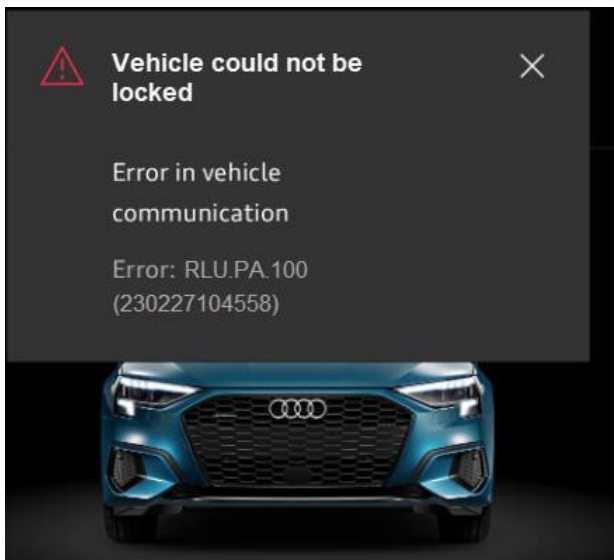

Figure 1: Message for iOS devices
- RLU.PA.100 (iOS - Figure 1).